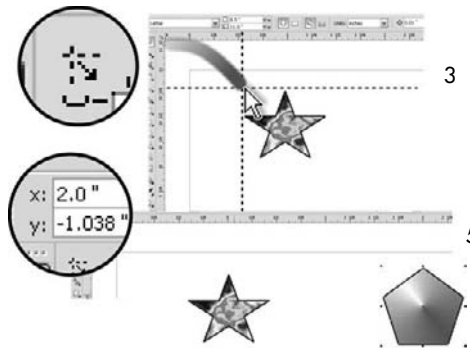

FIGURE 6-3
5. With this shape still selected, take a look at the X, Y fields on the Property Bar. If the X value is not exactly 2.000, type **2.000** in the X field, and then press ENTER. See Figure 6-3.